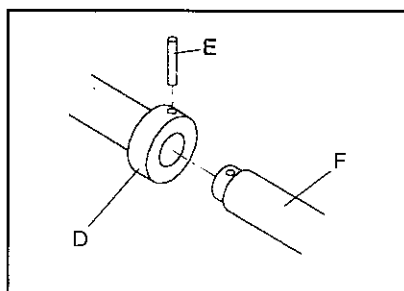
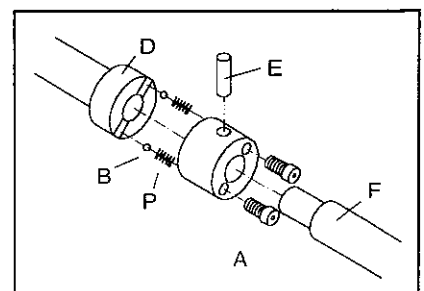

Fig.27
Fig.28
**FEED ROD OVERLOAD CLUTCH (FIG.28)**
**FEED ROD SHEAR PIN (Fig.27)(Fig.28)**